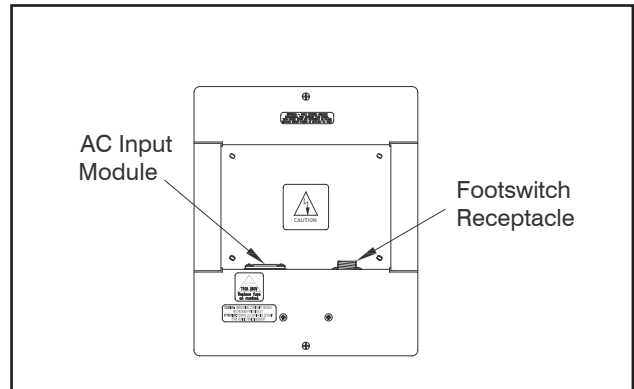
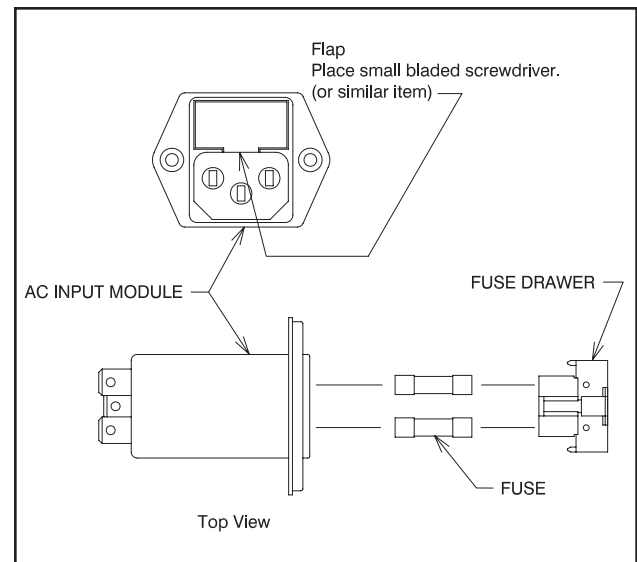

FIGURE 2
FIGURE 5
3.1.1. Plug the Power Cord into the rectangular receptacle (AC Input Module) on the back of the unit. Refer to Figure 2.
3.2.1. If ordered, install the optional Footswitch. To accomplish this, plug the end of the Footswitch Cord into the round receptacle located on the back of the cabinet. Align the connector with the round receptacle and twist the connector clockwise to secure it in place. Refer to Figure 2.
Refer to Figure 2 and Figure 5.
4.2.3.3. Place a small bladed screwdriver into appropriate slot (shown in Figure 5) and push the flat spring towards the center of the power module until a click is heard. (Click may not be heard in all cases.)